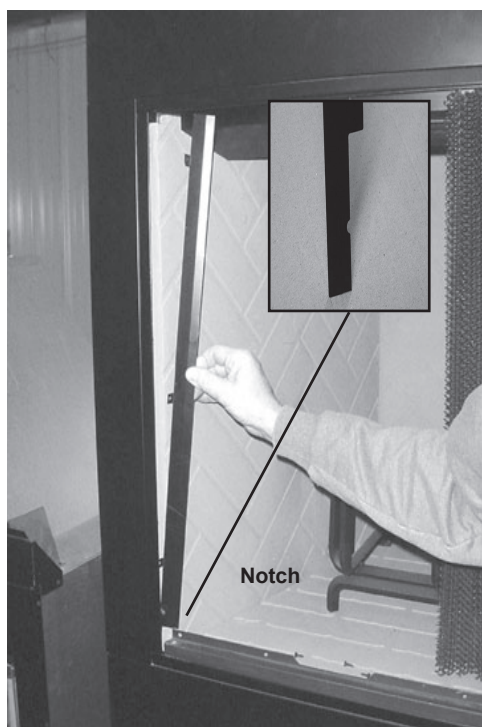

Figure 4 - Slide the Side Filler In
- b. Slip the side filler in front of the side refractory with the notch to the bottom and the tabs to the front. See Figure 4.